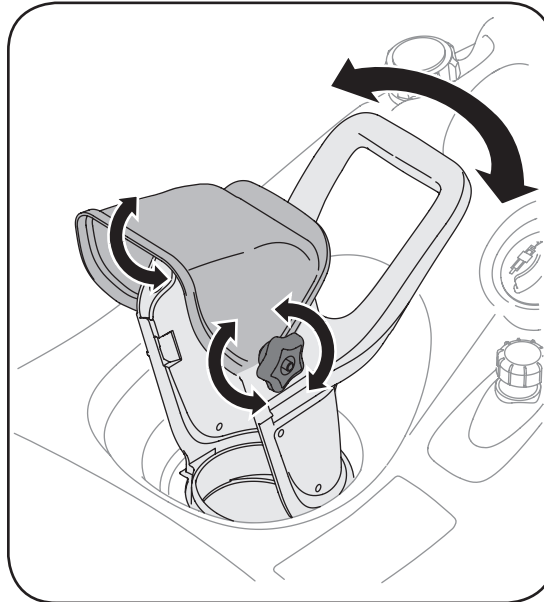

Figure 5-2
2. Position the chute assembly opening by using the Chute Handle to throw the snow in the desired direction. See Figure 5-2.